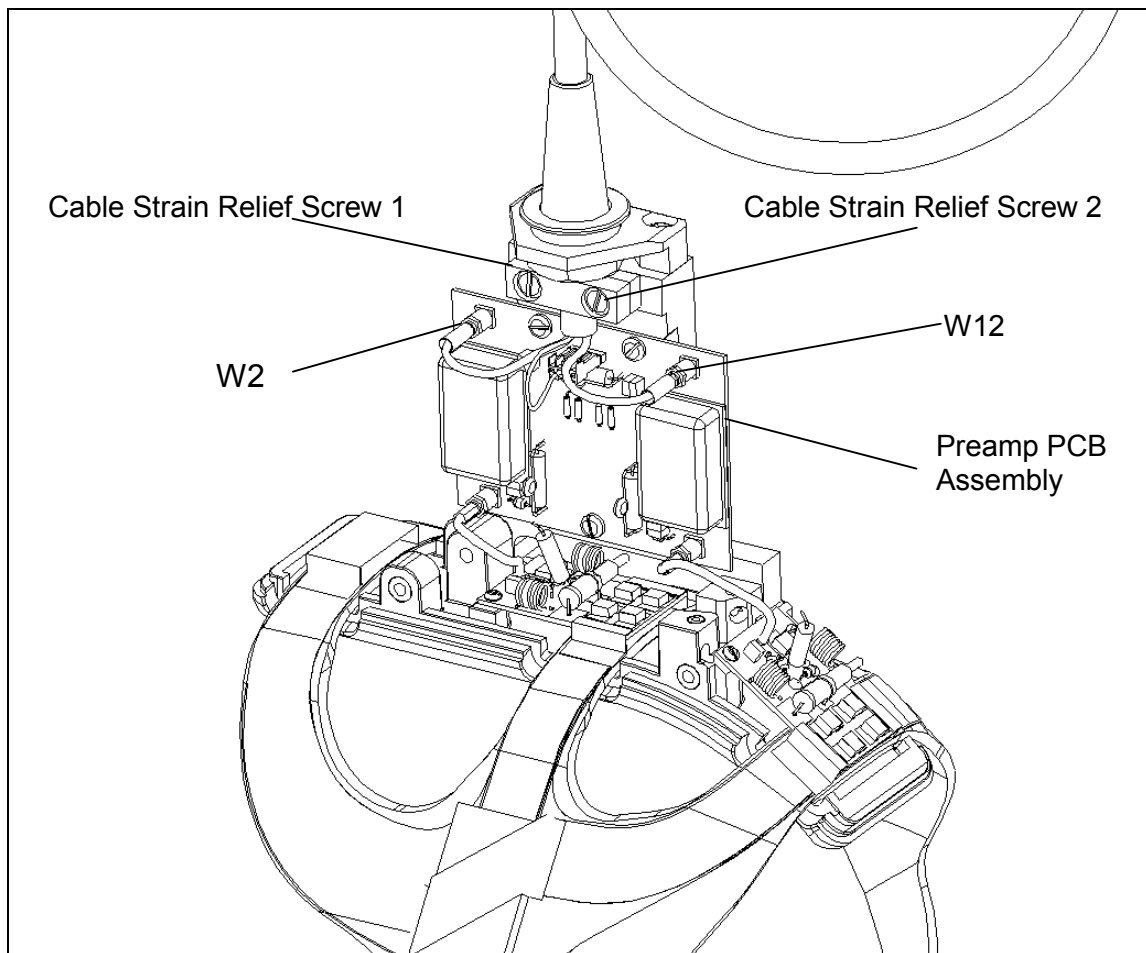

Figure 20: Cable assembly.
Step 2 – Remove the 2 (two) screws near the cable strain relief (refer to *Figure 20*).